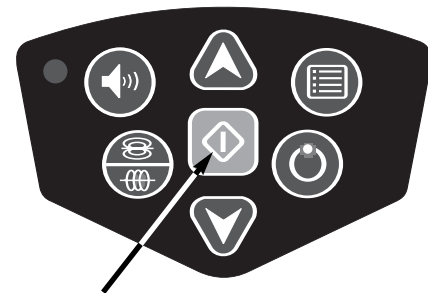

Figure 17 – Select Key
- Press the Select Key  (Figure 17) to check the box for each frequency intended for use.